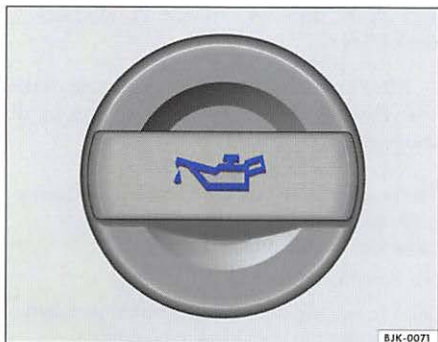

Fig. 6 In the engine compartment: engine oil filler cap
- Unscrew the oil cap only ⇒fig. 6 from the cylinder head cover. You will see the oil can symbol on top of the oil cap. If you are not sure, contact your authorized Volkswagen dealer for assistance.